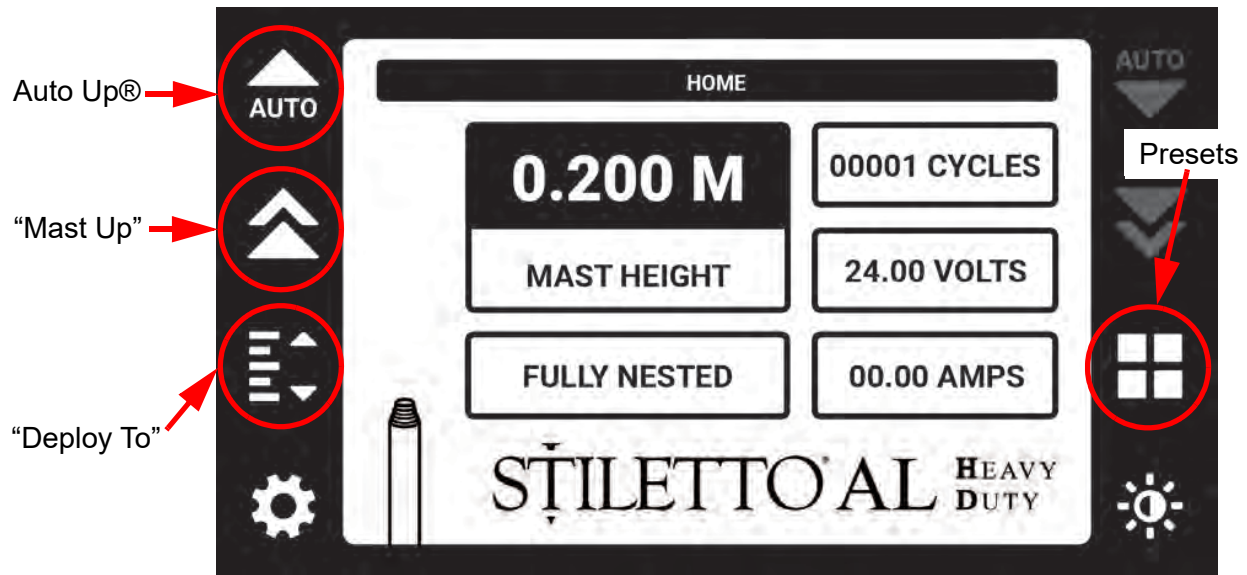
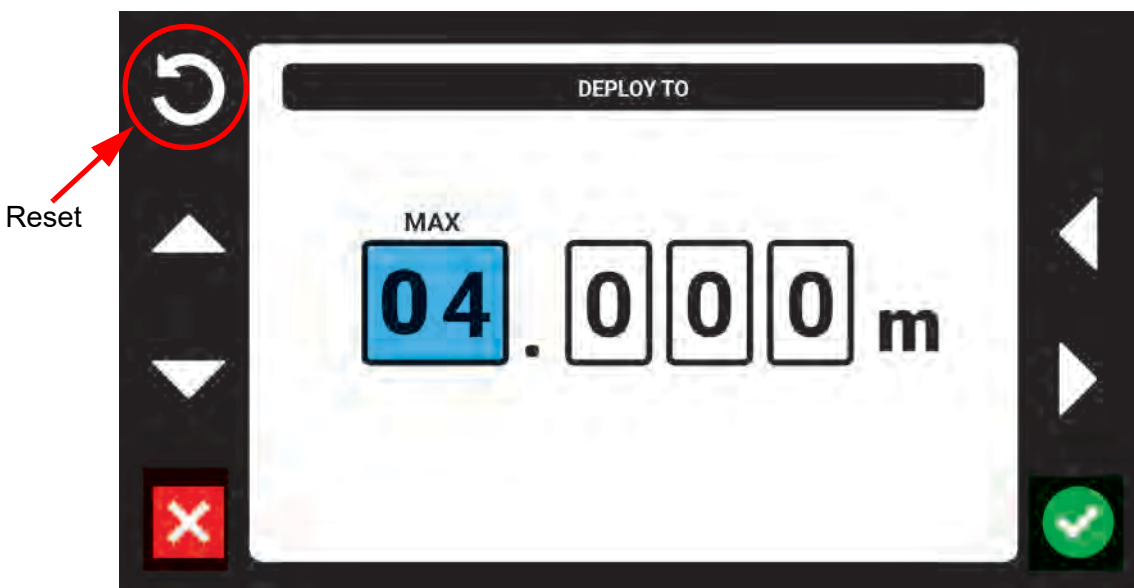
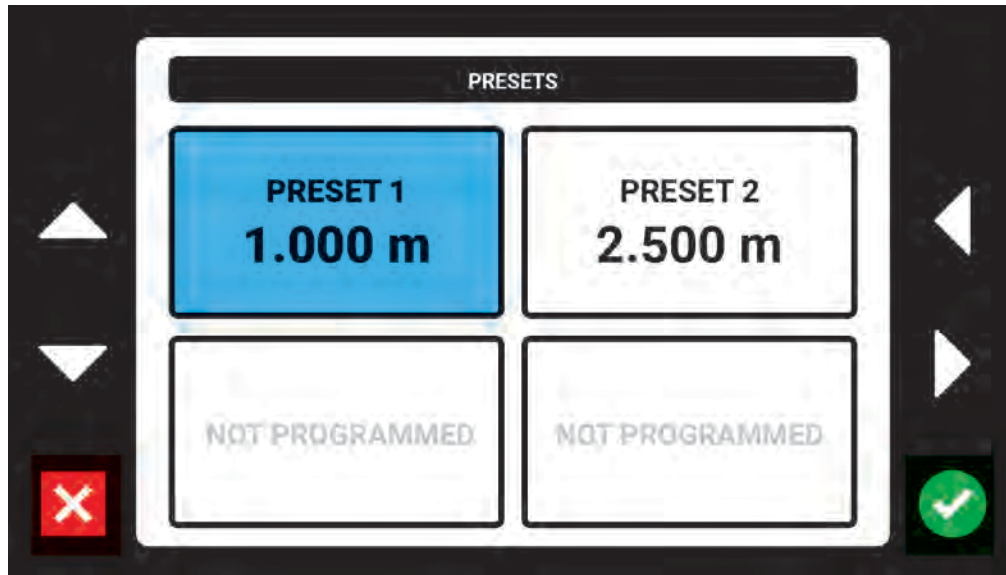

Figure 6-8 Home Screen - Mast is Fully Nested
Figure 6-11 Deploy To - Enter Height Screen
Figure 6-12 Select Preset Screen
All of the methods of extension can be accessed from the Home Screen (Figure 6-8).
If a command is available for use, the icon will be colored white. If a command is not available, the icon will be colored dark gray. For example, in Figure 6-8, the mast is fully nested, so the Auto Stow® and the “Mast Down” button are unavailable since the mast cannot be further lowered.
1. To fully extend the mast, press the Auto Up® button (Figure 6-8).
1. To extend the mast, press and hold the “Mast Up” button (Figure 6-8) until the mast reaches the desired height. Pushing the “Mast Up” button will cause the mast to rise until the “Mast Up” button is released. If the “Mast Up” button is not released, the mast will reach its fully extended height.
1. To extend the mast, press the “Deploy To” button (Figure 6-8). The Deploy To - Enter Height Screen will appear (Figure 6-11).
1. To extend the mast, press the Presets button (Figure 6-8). The Select Preset Screen will appear (Figure 6-12).